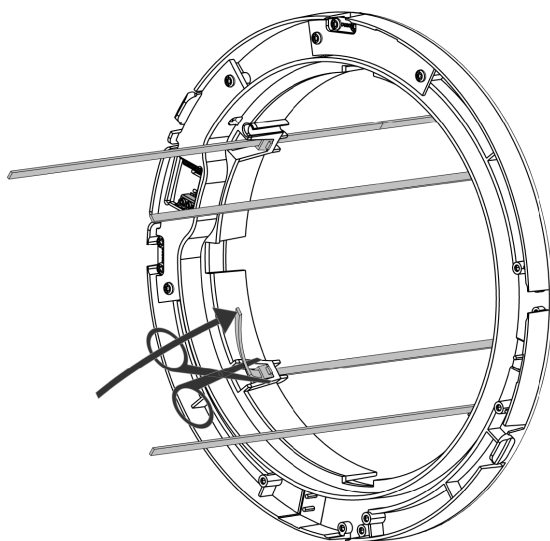
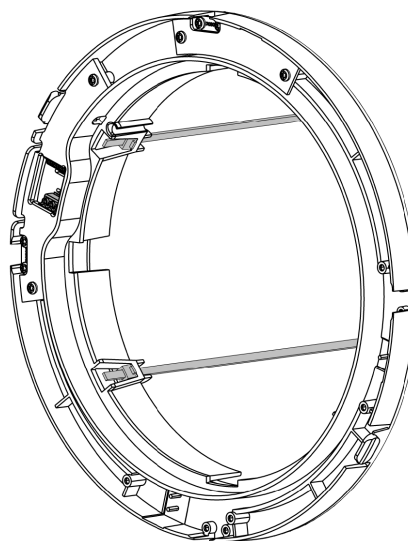

Figure 24 - Bend and cut the other strips
Figure 25 -The internal wall cover is assembled
5. Bend the end of each of the mounting strips from the outside hood to allow cutting off the unnecessary length within the “funnel” of the wall covers, see Figure 24 and Figure 25.